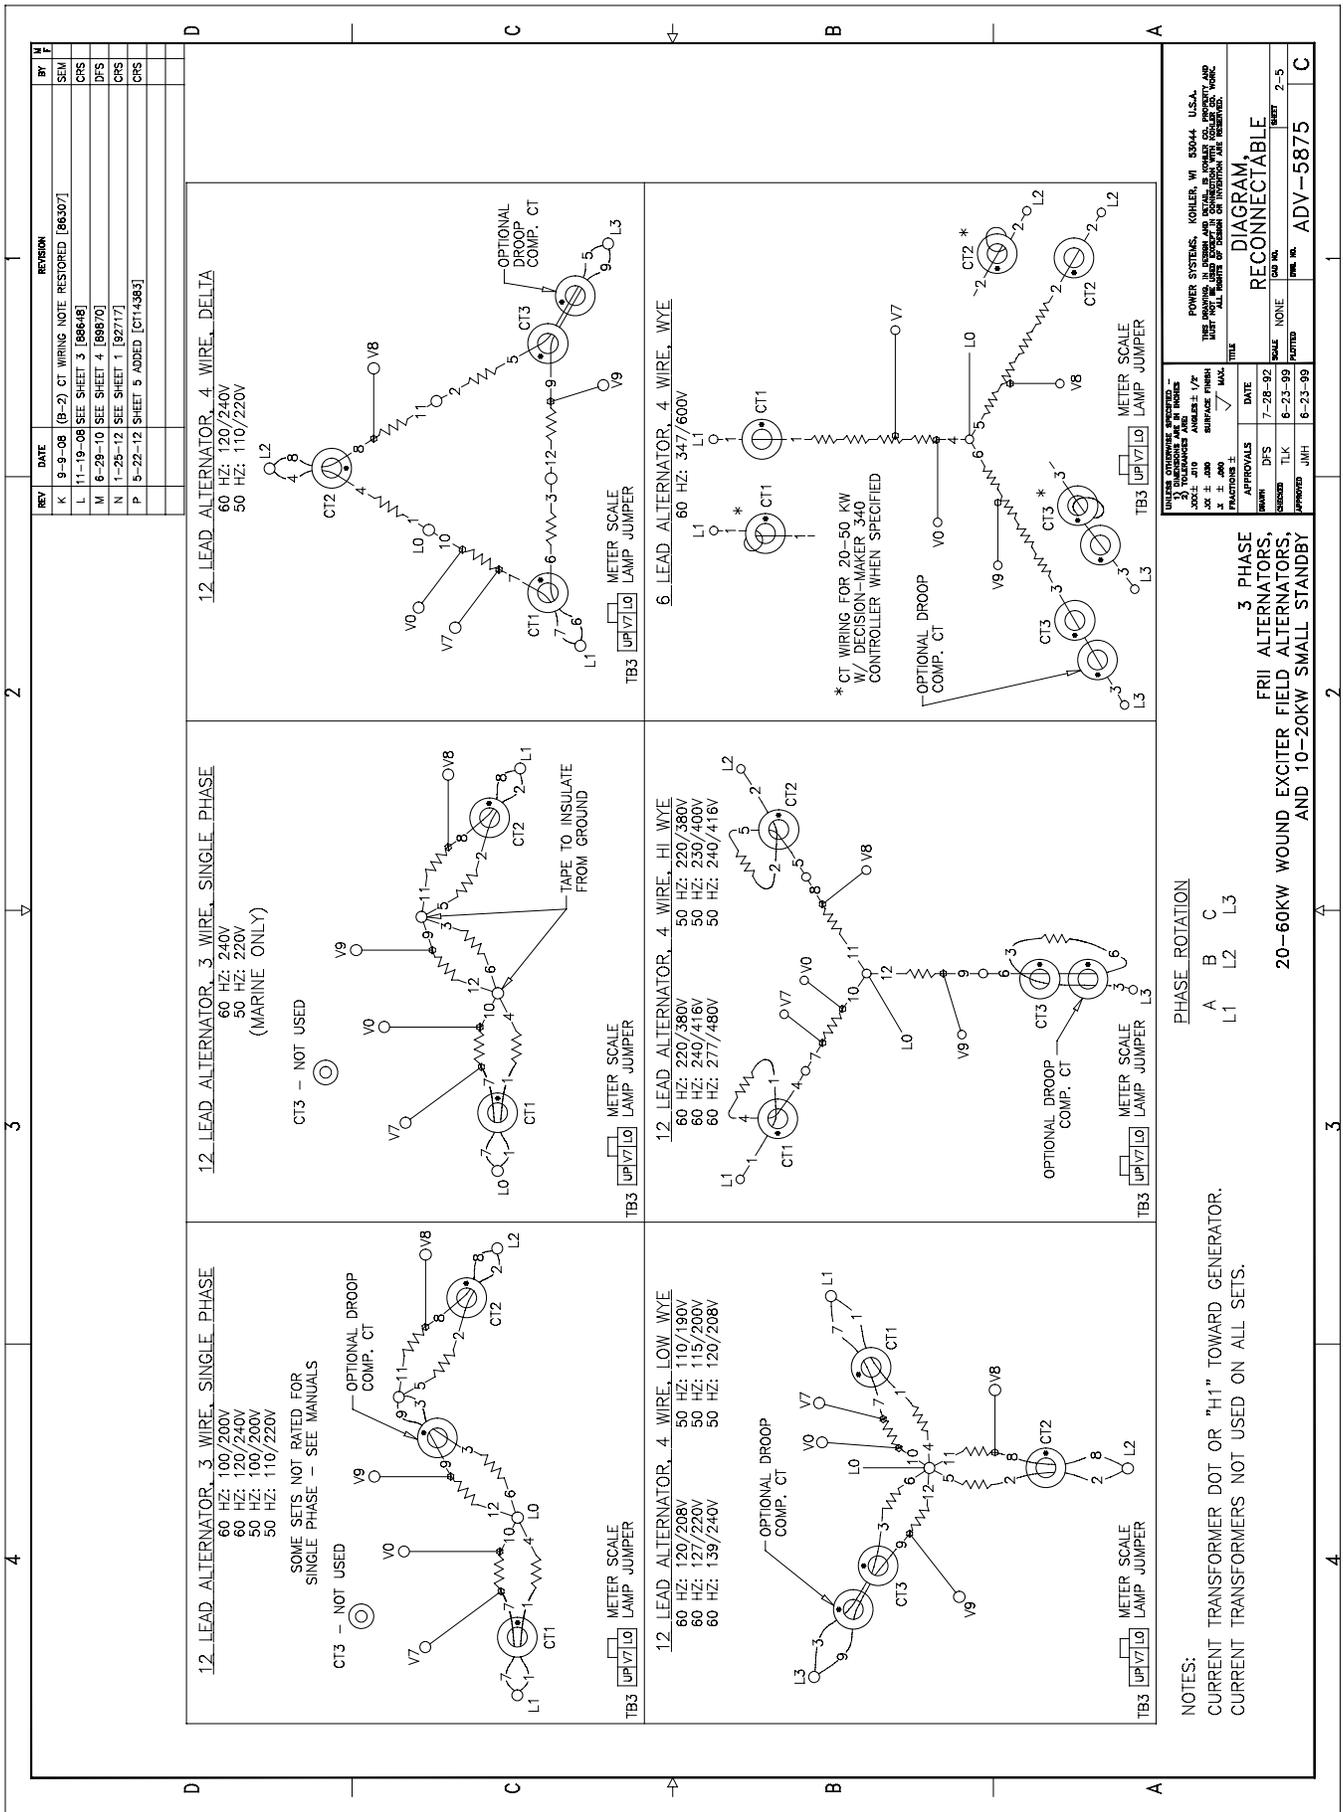
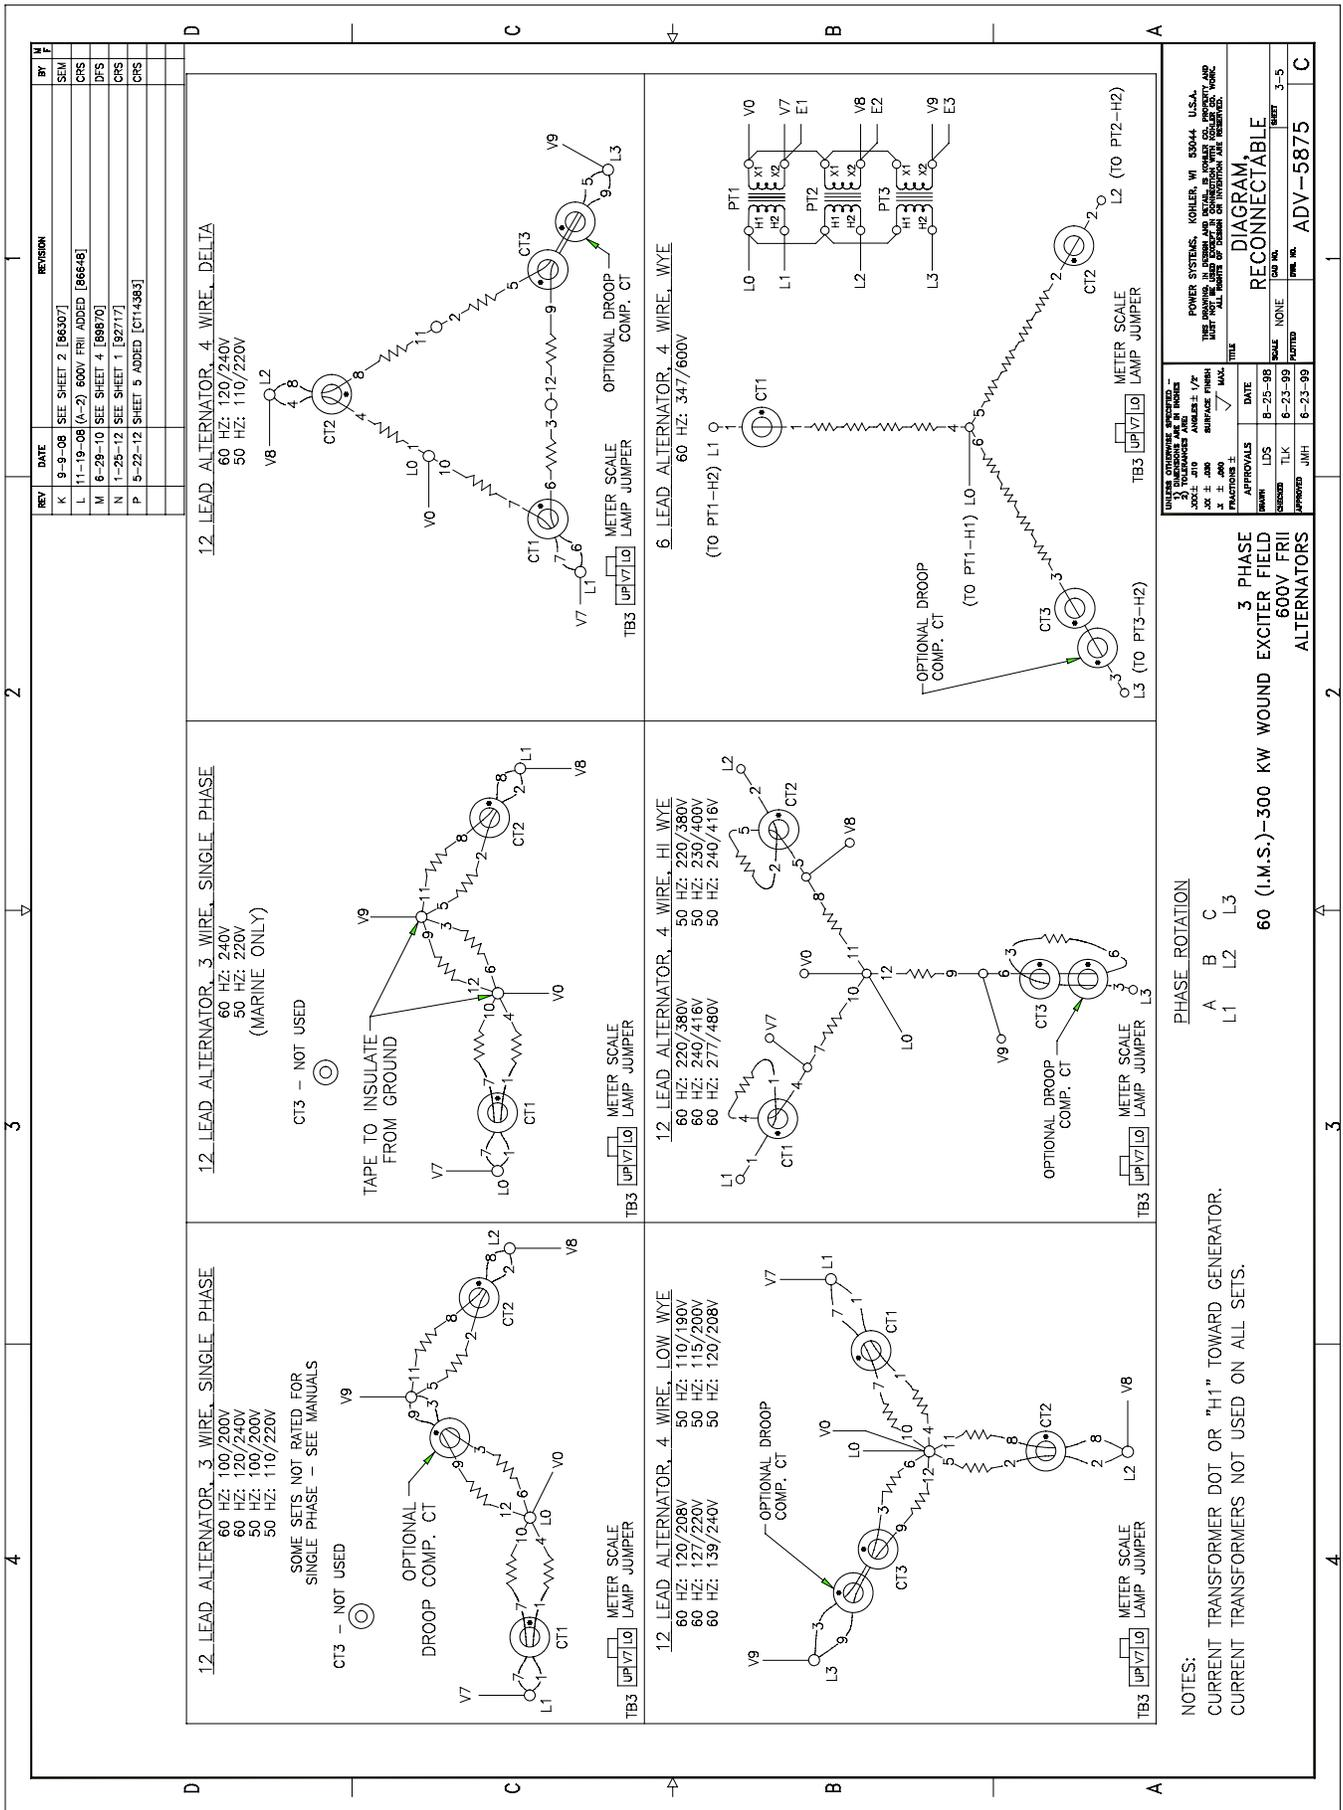
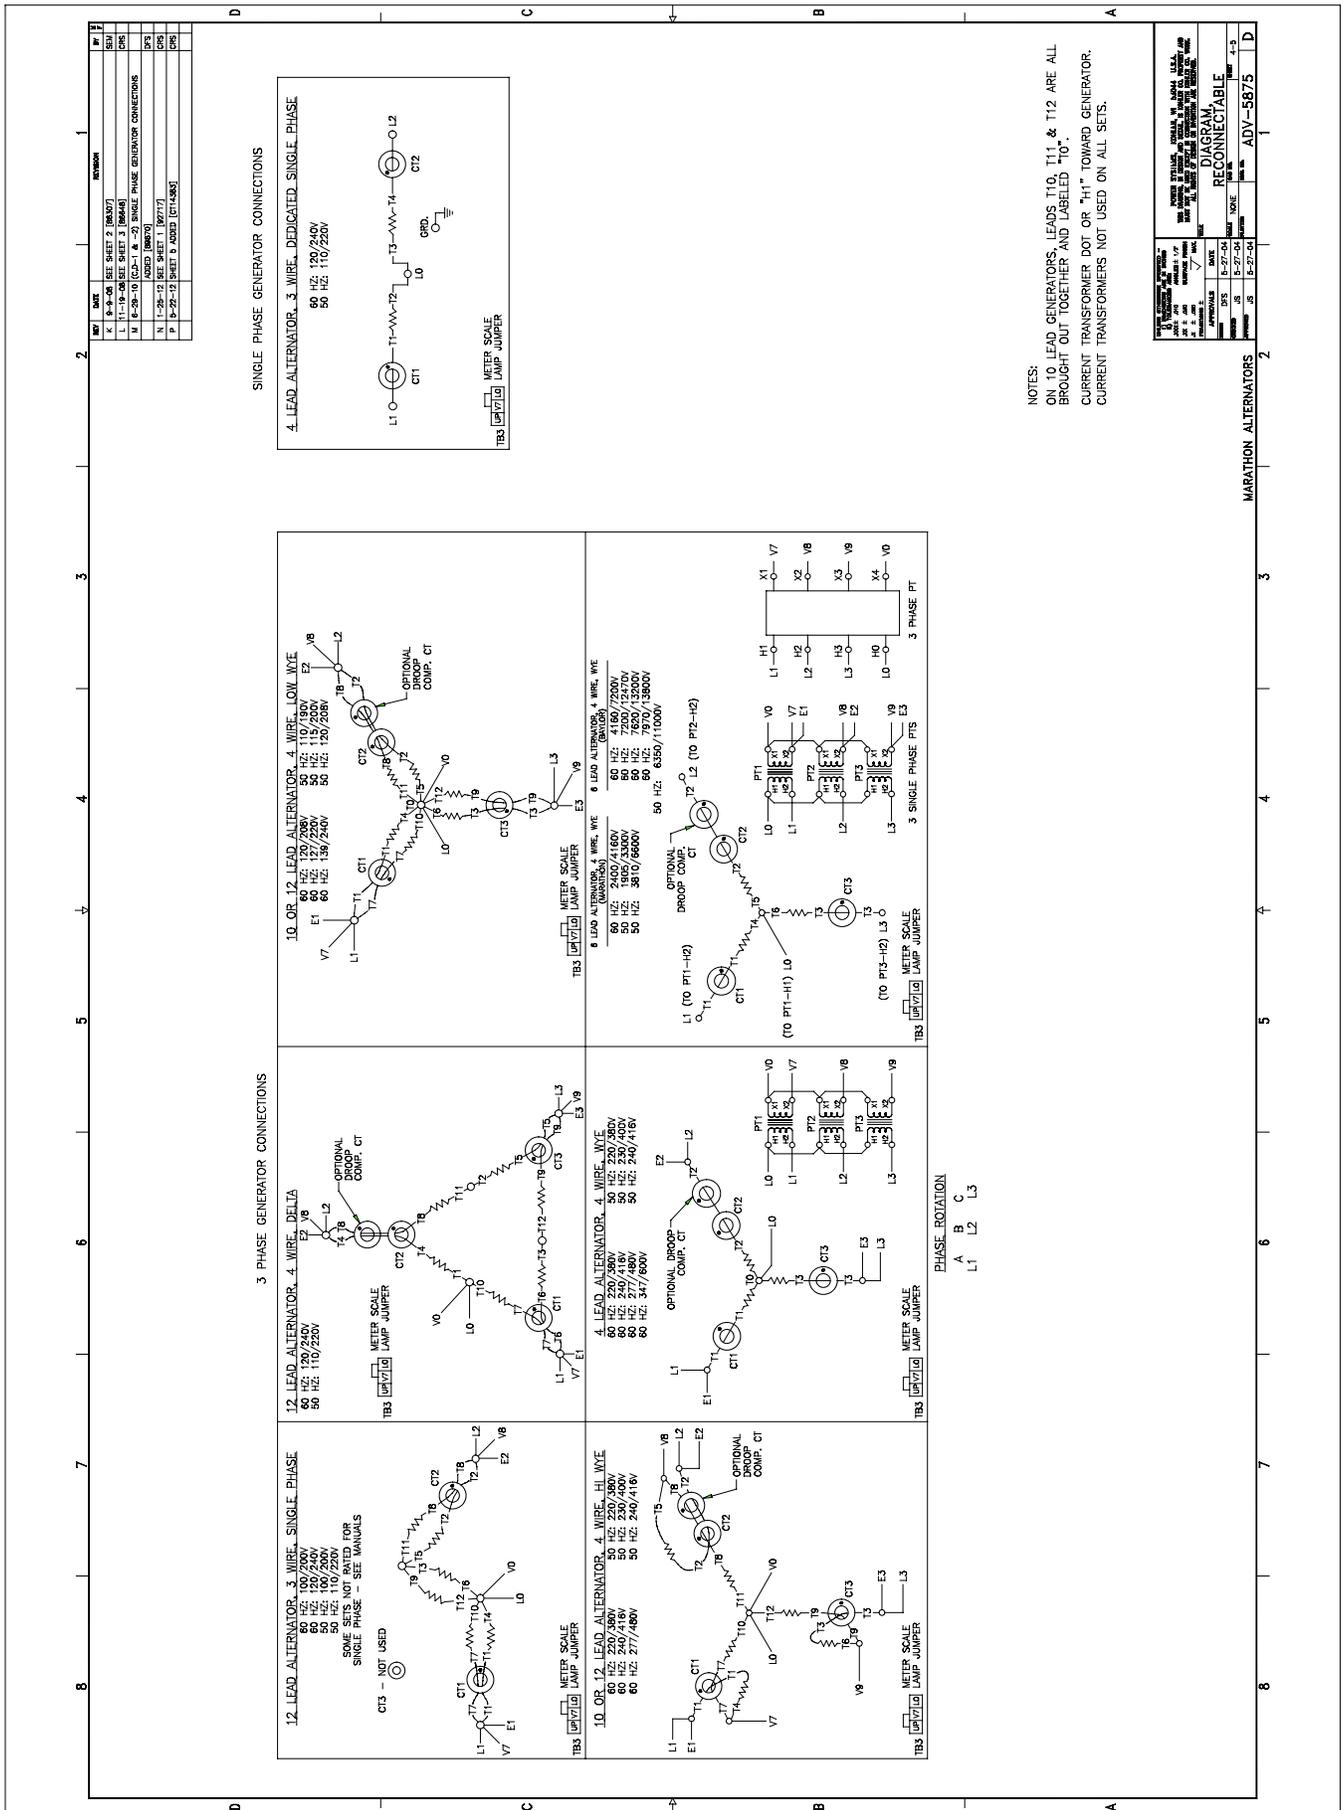

Figure 5-2 20-400 kW Permanent Magnet and 20-60 kW Wound Field Alternators, ADV-5875B-P
Figure 5-3 60 (with Oversize Alternator)-400 kW Wound Field Alternators, ADV-5875C-P
Figure 5-4 350 kW and Larger Pilot-Excited, Permanent Magnet Alternator, ADV-5875D-P
3. Use Figure 5-1, Figure 5-2, Figure 5-3, or Figure 5-4 to determine the generator set voltage configuration. Note the original voltage and reconnect as needed. Route leads through current transformers (CTs) and connect them according to the diagram for the desired phase and voltage.